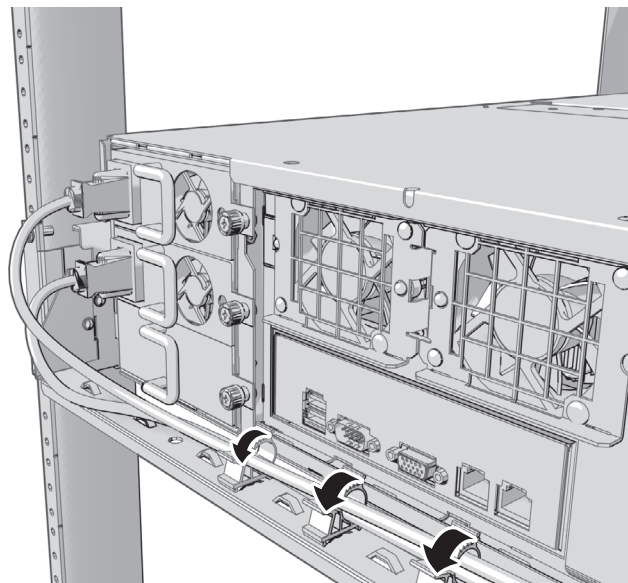

Figure 13. Installing the Cable Management Bracket
13. Install the cable management bracket on the rear panel as follows (refer to Figure 13):